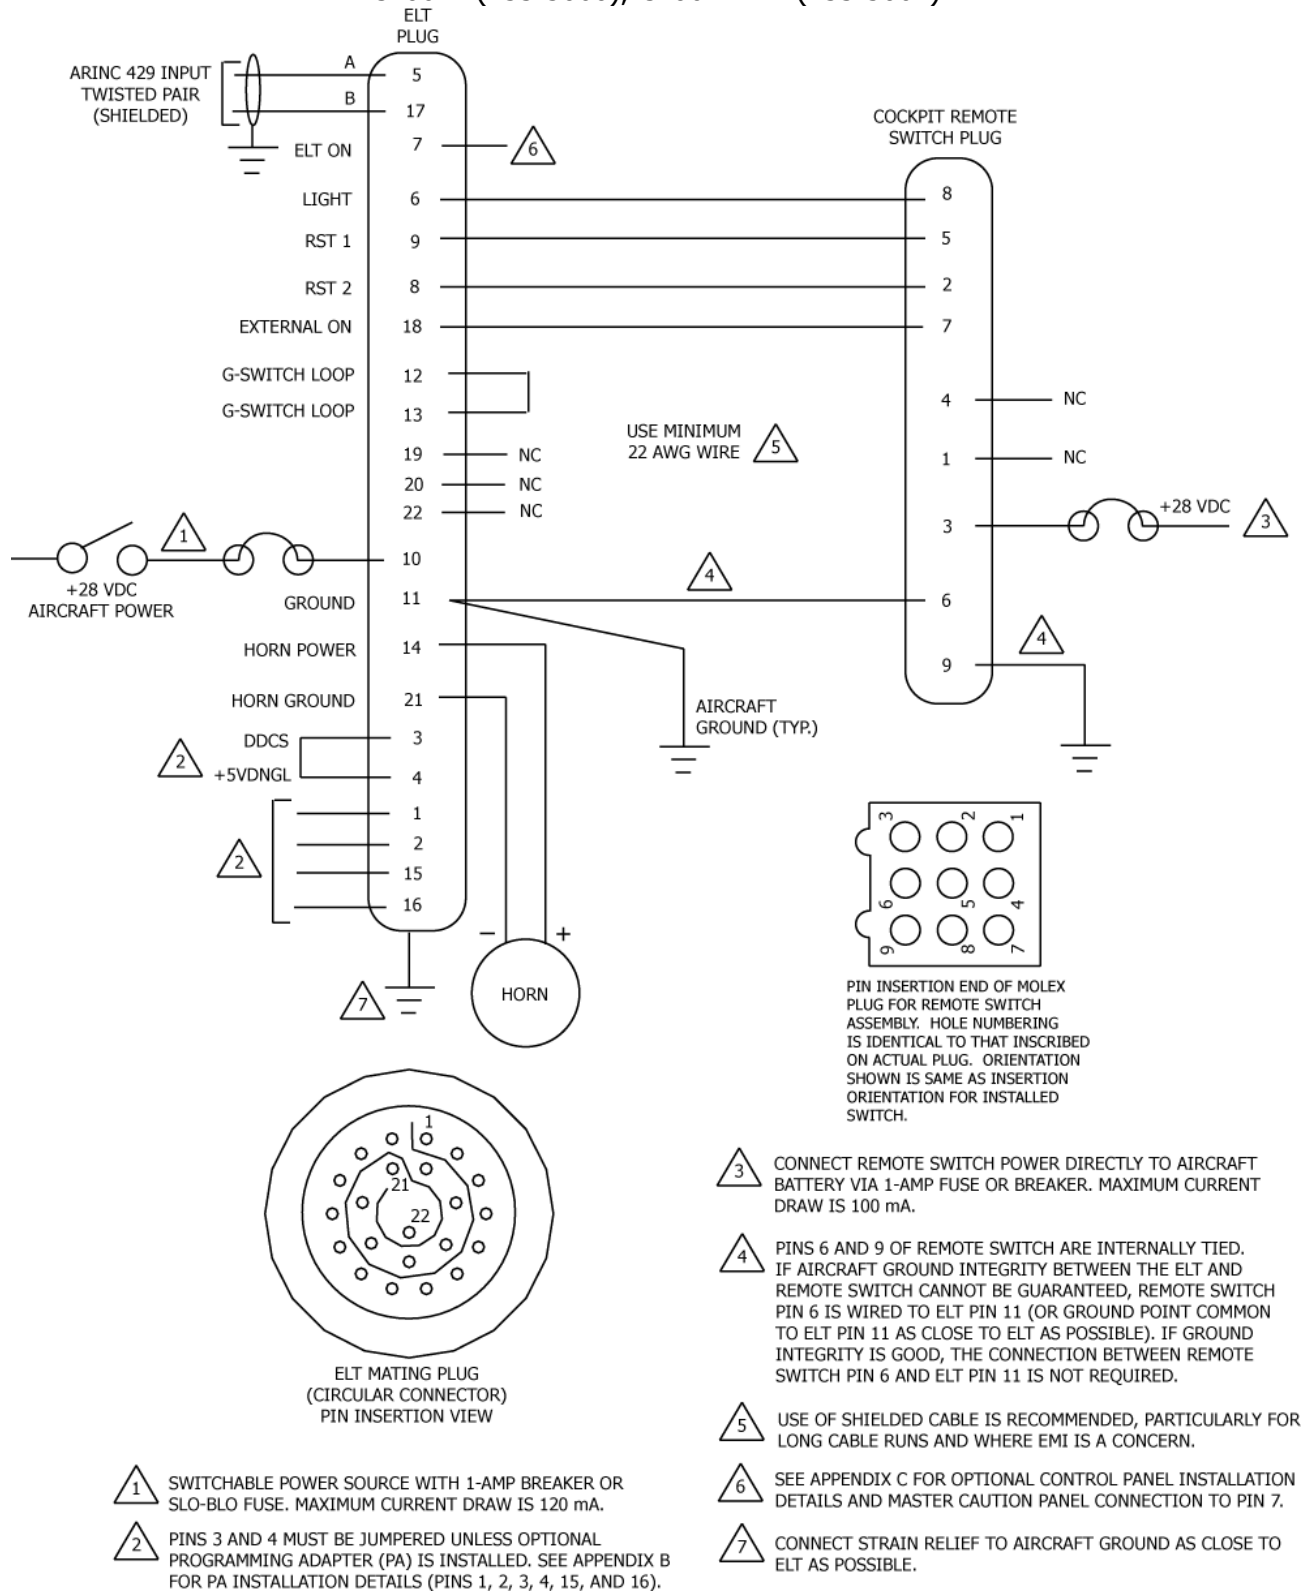
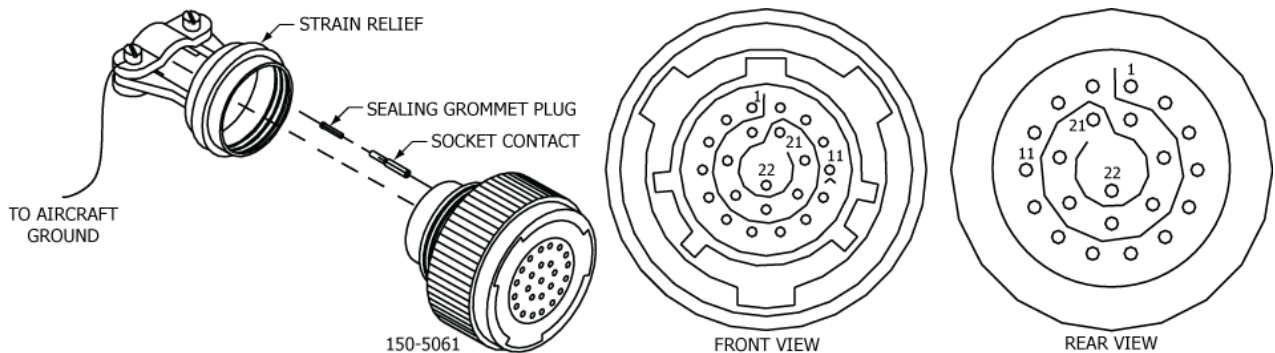

Figure 21 Remote Switch Harness Wiring Diagram
Figure 22 Harness ELT 22-Pin Plug Arrangement
- 4) See Figure 21 Remote Switch Harness Wiring Diagram on page 59.
NOTE: This wire will be crimped in the same pin as the wire running from Pin 11 of the ELT plug to the cockpit remote switch plug Pin 6, if the Pin 11 to Pin 6 connection is required. See Note 4 in Figure 21 Remote Switch Harness Wiring Diagram on page 59. Alternatively, the wires may be spliced in a manner acceptable to the aircraft manufacturer, or as described in AC 43.13-1, Paragraph 11-167.
- a) The Pin 11 ground wire. The wire running from Pin 11 to remote switch Pin 6 is terminated in the same pin, if this wire is required. See Figure 21 Remote Switch Harness Wiring Diagram on page 59. Make a note of the wire identification for later reference.
- 1) Refer to Figure 21 Remote Switch Harness Wiring Diagram on page 59 and Figure 22 Harness ELT 22-Pin Plug Arrangement below.
- 1) Inert the wiring pins in the 151-5009 Molex 9-pin cockpit remote switch plug. See Figure 21 Remote Switch Harness Wiring Diagram on page 59.